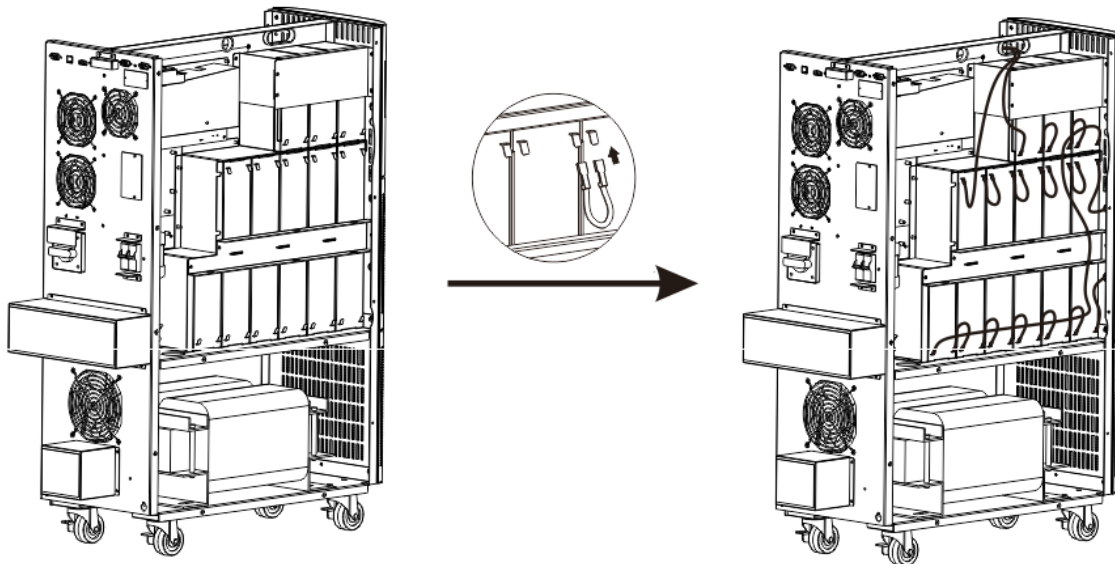

FIG. 14
25. Observer polarity. Re-install all of the battery jumper wires on the right hand side (**FIG. 14**).